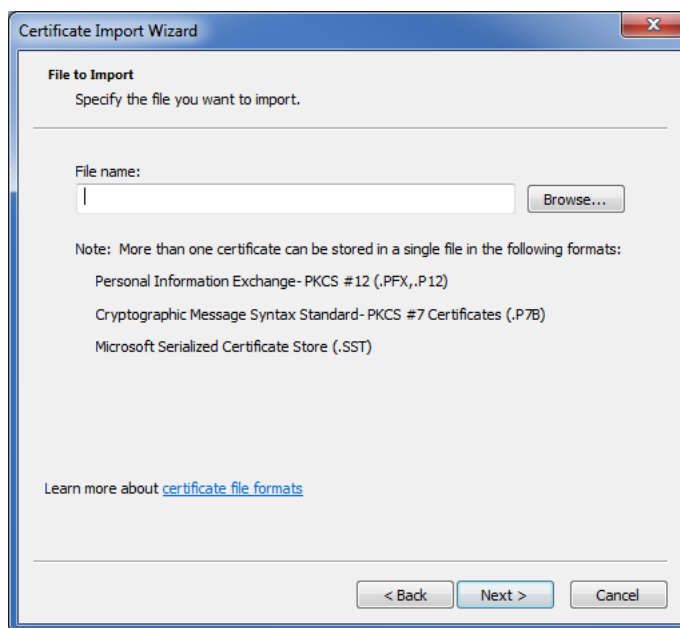

Fig. 2-6: File to Import
- Click **Next** in the 'Certificate Import Wizard' and use the browse function in order to select the certificate to import (.cer, .crt, .pfx). Refer to Figure 2-6.